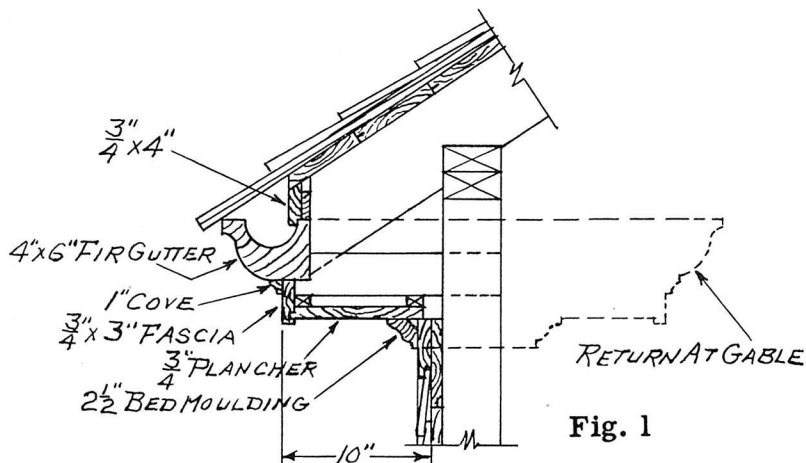

Fig. 1
1. How many outlookers (see Figure 1) would you get out for the level cornice of the main building?
- Figure 1 is a section through the main level cornice. How much fir gutter should be ordered for both sides of building and returns?